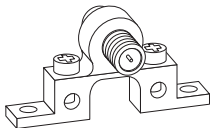

Fig. 1a
- 1) Connect one end of a coax cable to the antenna and the other end to a 75 ohm grounding block (not provided). Below (**Fig. 1a**) is an example of a 75 ohm grounding block.